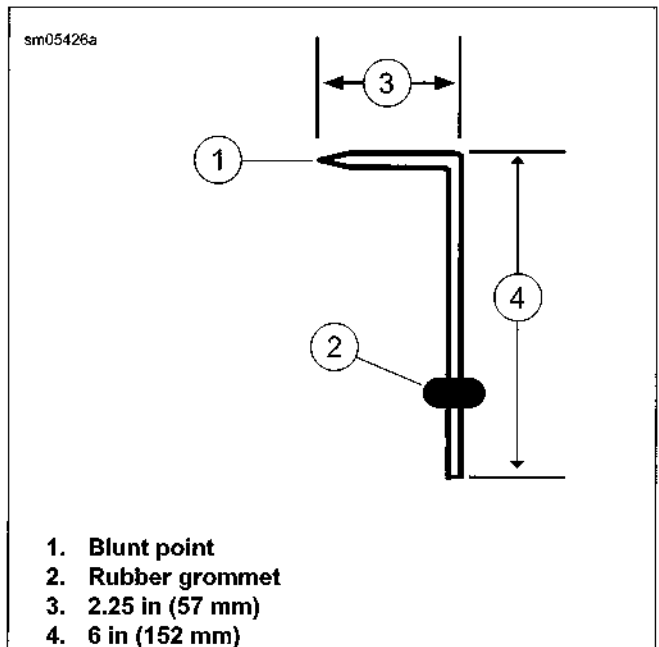
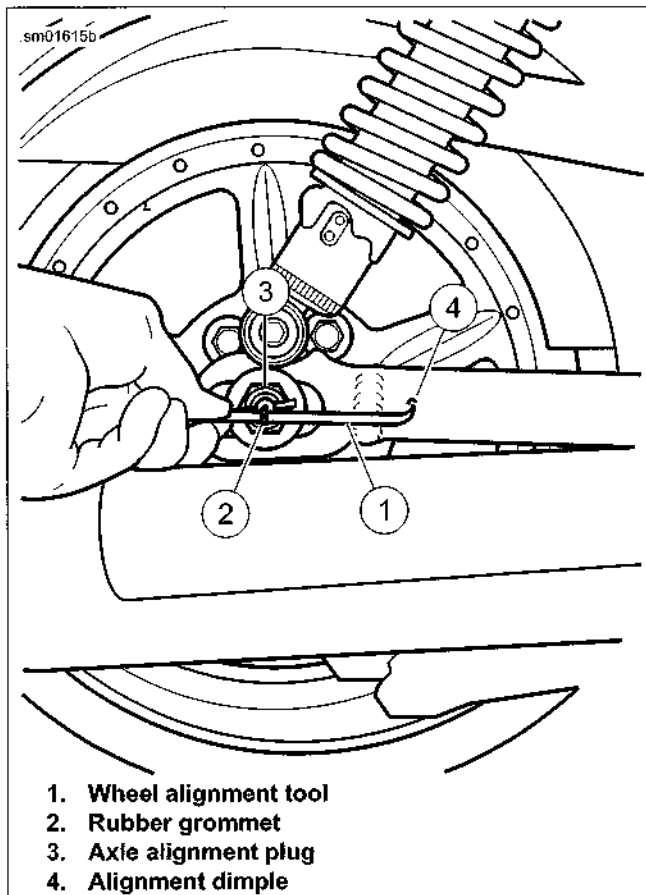

Figure 1-50. Wheel Alignment Tool
Figure 1-51. Checking Wheel Alignment
- See Figure 1-50. Fabricate an alignment tool using a piece of 1/8 in (3.175 mm) diameter aluminum welding rod 6 in (153 mm) long:
- Grind one end down to a blunt point (1).
- Bend rod at a 90 degree angle, 2.25 in (57 mm) (3) from blunt point.
- Place a snug-fitting rubber grommet (2) on rod to act as a slide measurement indicator.
- See Figure 1-51. Insert tool point (1) in alignment dimple (4).
- Slide rubber grommet (2) along tool shaft until it aligns with hole in center of alignment plug (3).